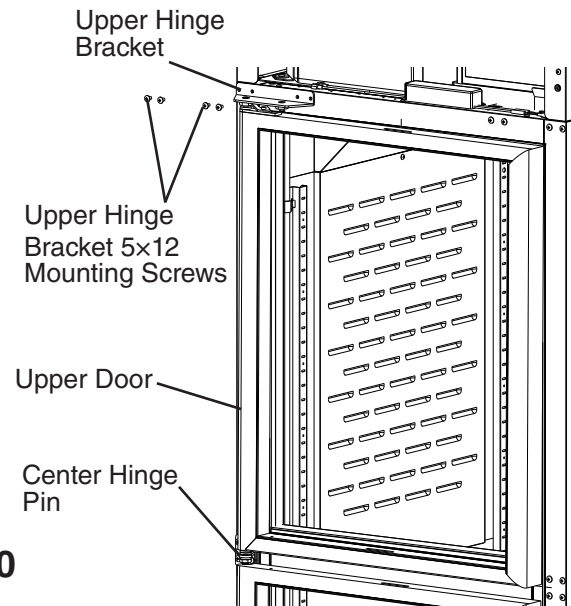

Fig. 60
- 19) While supporting the upper door and upper hinge bracket, place the upper door onto the upper center hinge pin on the center hinge bracket in the closed position, then secure the upper hinge bracket to the cabinet. See Fig. 60. **NOTICE! Be sure to reuse the bracket screws for mounting the bracket as the bracket screws are 5×12 and filler screws are 5×10.**